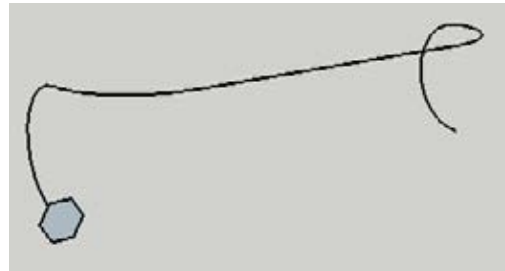

Figure 2-90
10. Erase the group, and you're left with the Follow Me face and path (Figure 2-90).